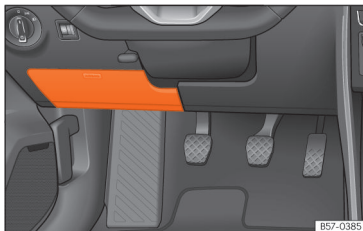

Fig. 198 On the dashboard on the driver side: lid of the fuse box.
- *Open*: fold the cover down >>> **Fig. 198**.